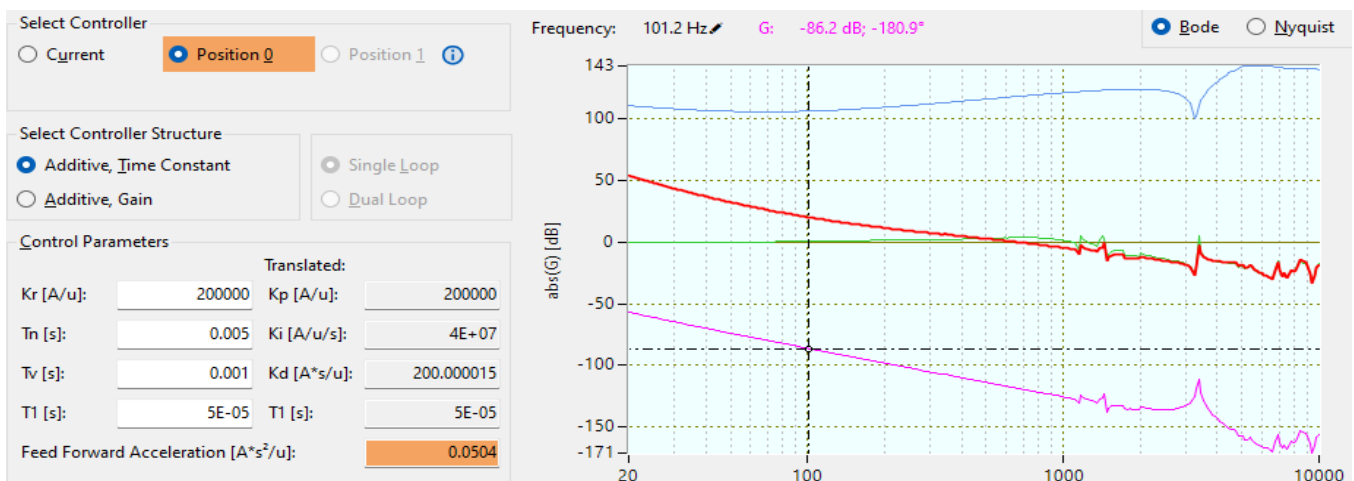

Figure 66: Calculation of the acceleration feed forward. With a measured amplitude of -65.3dB at 29.8Hz, the acceleration feed forward is set to 0.052.
3. At lower frequencies the amplitude in the Bode view of *Gplant* should show a linear section with a drop of 40dB per frequency decade and a phase angle of -180 degree. Place the cursor at a frequency *f* within the linear section (see also Figure 66).